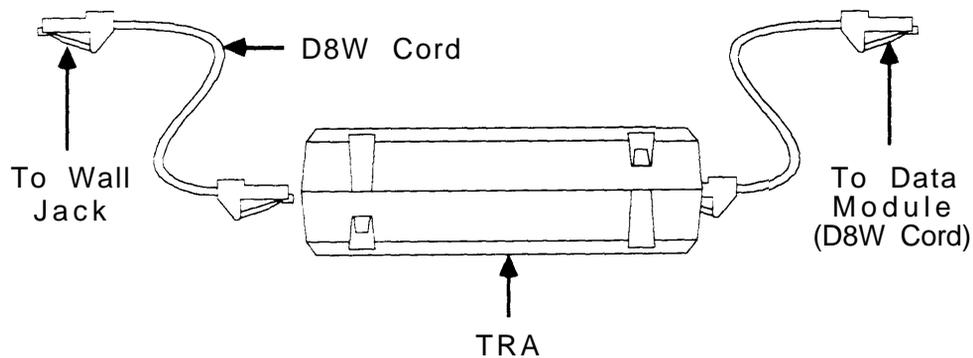

Figure 45: Terminating Resistor's Power Connections (Without an L3 or L4 Adaptor)
- If you are using individual D8W telephone line cords to connect the modules with the digital lines, plug one end of the TRA into the wall jack. Plug the D8W cord from the other end of the TRA into the **LINE** jack on the appropriate data module (Figure 45).